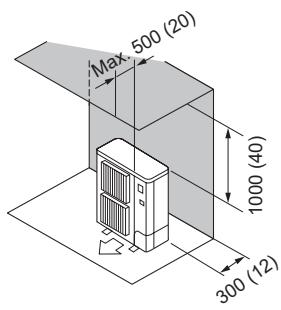

Fig. 2-7
(2) Obstacles at rear and above only (Fig. 2-7)